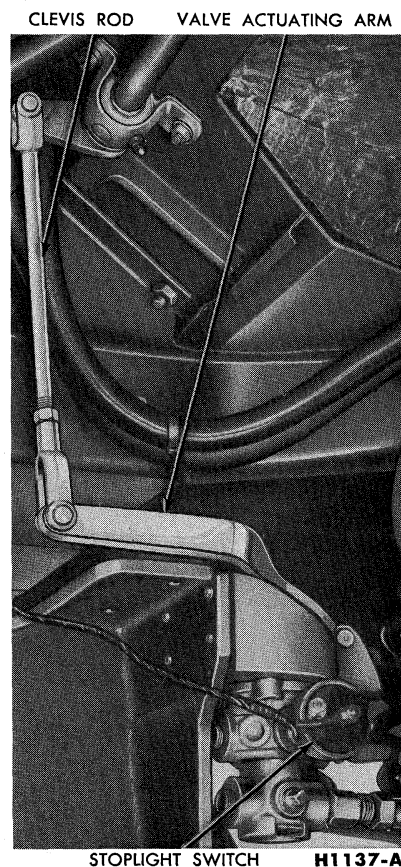
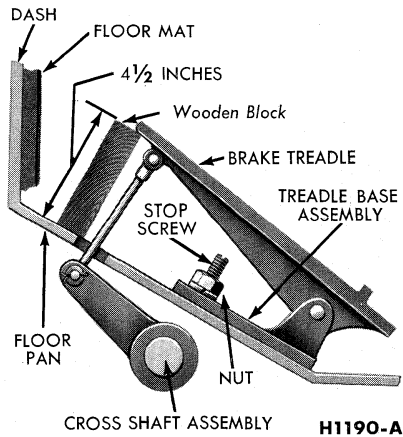

FIG. 8—H-Series Control Valve Linkage
FIG. 11—Treadle and Linkage Adjustment
On H-Series trucks, the control valve is mounted on a bracket that is bolted to the right side cab pivot support (Fig. 8). The valve is operated
1. Make sure that the linkage components operate freely, then disconnect the clevis rod from the valve actuating arm by removing the clevis pin (Fig. 8).
and place a 4 1/2 inch wood block between the brake treadle and the floor pan sheet metal (Fig. 11).
3. While holding the treadle against the wood block (Fig. 11), adjust the clevis rod (Fig. 8), so that the clevis pin can be inserted through the adjusting clevis and the valve actuating arm.
4. Remove the wood block and tilt the cab. With the cab tilted, observe the rear stop lights. If the lights are "on", shorten the clevis rod by turning the clevis (Fig. 8) one turn at a time until the stop lights go "out".